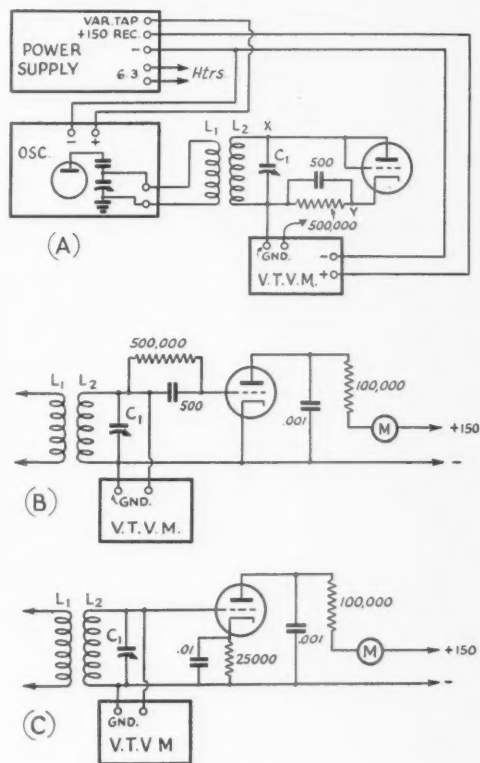

Fig. 1
**Apparatus:** The power supply, oscillator, v.t. voltmeter, test instrument, tube board and circuit board are required for this experiment, together with an assortment of fixed condensers and resistors. The wiring diagrams for the three types of detectors tested are shown in Fig. 1. The oscillator may be operated either crystal- or self-controlled, with the plate voltage set to a low value so that the r.f. output will be small. Use the lowest tap on the power supply and adjust the output voltage by means of the variable resistor in the supply.
**Procedure:** The object of this experiment is to compare the sensitivity and linearity of the diode, grid-leak and plate detectors. Connections for determining the diode characteristic are shown in Fig. 1-A. The tube may be any type having a diode section (such as the 6H6, 6R7, 6Q7, etc.) or a small triode such as the 6J5 with grid and plate connected together. The latter is indicated in the circuit diagram. The v.t. voltmeter is used to measure both the applied r.f. voltage and the rectified output voltage. For the former purpose the "hot" lead is connected to point "X" and for the latter to point "Y." While the output voltage could be measured by means of a d.c. microammeter inserted in series with the 500,000-ohm load resistor, the current is too small for accurate measurement with the ordinary test kit.
Connections for the grid-leak detector are shown in Fig. 1-B. In this case the v.t.v.m. is always connected across the tuned circuit. The grid leak and grid condenser are in the grid lead to the tube, cathode being grounded. The plate circuit is by-passed for r.f. by the 0.001- $\mu$ fd. condenser (larger values may be used), and the plate voltage is taken from the 150-volt regulated tap on the power supply. The load resistor is selected to limit the plate current to the region of 1 milliampere with no signal, giving a plate voltage of well under 50 volts. The milliammeter is connected in the plate circuit as shown; the test kit may be used for measuring both plate current and v.t.v.m. current. In this case plate current readings are taken for various values of r.f. voltage from zero up to 9 or 10 volts. If the same milliammeter is used for the plate circuit as for the v.t.v.m., the plate circuit of the detector should be closed when the instrument is connected to the v.t.v.m.
The set-up for measuring the plate detector is shown in Fig. 1-C. It is similar to that for the grid-leak detector, but the tube is biased by means of a 25,000-ohm cathode resistor. The by-pass condenser in this case is 0.01  $\mu$ f., but somewhat smaller or larger values may be used. The measuring procedure is the same as with the grid-leak detector. In this case the plate current is quite small with no signal (that is, the tube is biased nearly to the cut-off point) and as the signal voltage is increased the plate current increases. If the same instrument is used both for measuring detector plate current and v.t.v.m. plate current, it is important that the plate circuit of the detector be closed when the meter is connected to the v.t.v.m. If this is not done there will be no plate current and consequently no bias, hence current will flow in the grid circuit of the tube and the r.f. voltage measurements will be incorrect because of the load on the circuit.